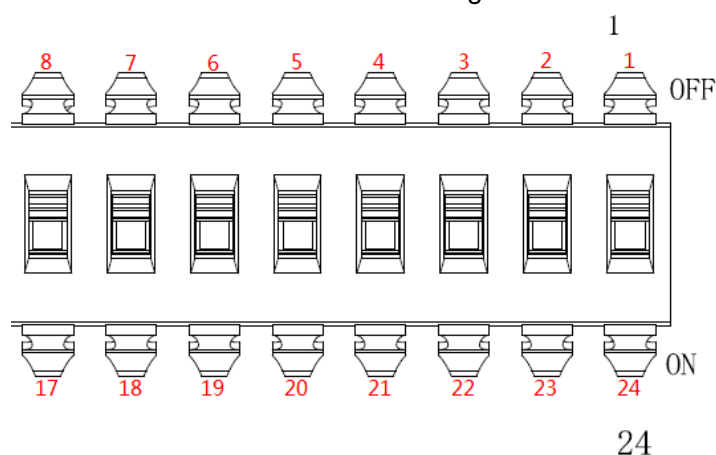

Figure 2-3
The speed dome can use DIP switch to set address number, encoding mode can adopt binary coding. 1(24)~8(17) is valid bit, the highest address bit is 255, please refer to Figure 2-3 for address label and refer to Table 2-1 for address bit setting.